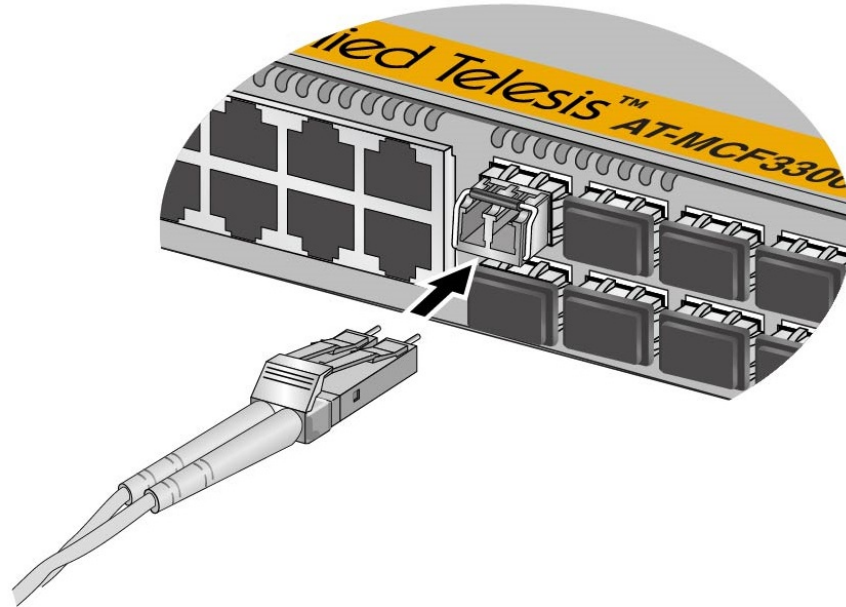

Figure 53. Connecting a Fiber Optic Cable to a Transceiver
8. Connect the fiber optic cable to the transceiver, as shown in Figure 53.